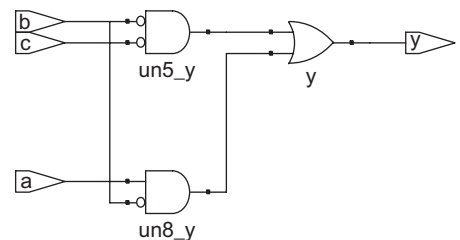
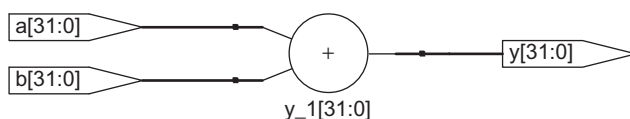

FIGURE A.2 Synthesized `silly_function` circuit
FIGURE A.3 Synthesized adder
A.1.2.2 Synthesis. Logic synthesis transforms HDL code into a *netlist* describing the hardware; e.g., logic gates and the wires connecting them. The logic synthesizer may perform optimizations to reduce the amount of hardware required. The netlist may be a text file, or it may be displayed as a schematic to help visualize the circuit. Figure A.2 shows the results of synthesizing the `sillyfunction` module with Synplify Pro. Notice how the three 3-input AND gates are optimized down to a pair of 2-input ANDs. Similarly, Figure A.3 shows a schematic for the adder module. Each subsequent code example in this appendix is followed by the schematic that it implies.